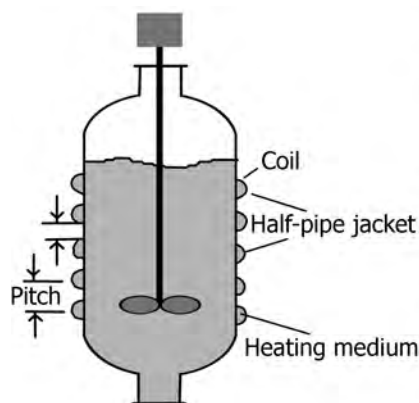

FIGURE 12.13 Jacketed vessel with a half-pipe jacket. (Source: www.reimec.co.za.)
- > Figures 12.13 and 12.14 illustrate half-pipe jackets and half-pipe coil dimensions, respectively.